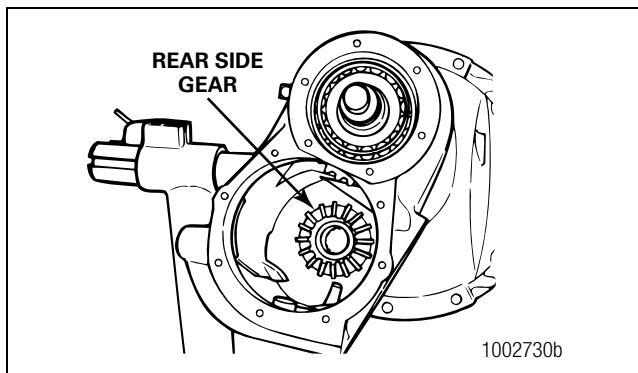

Figure 3.25
10. Remove the rear side gear and the bearing cone from the carrier. Remove the collar. Figure 3.25.